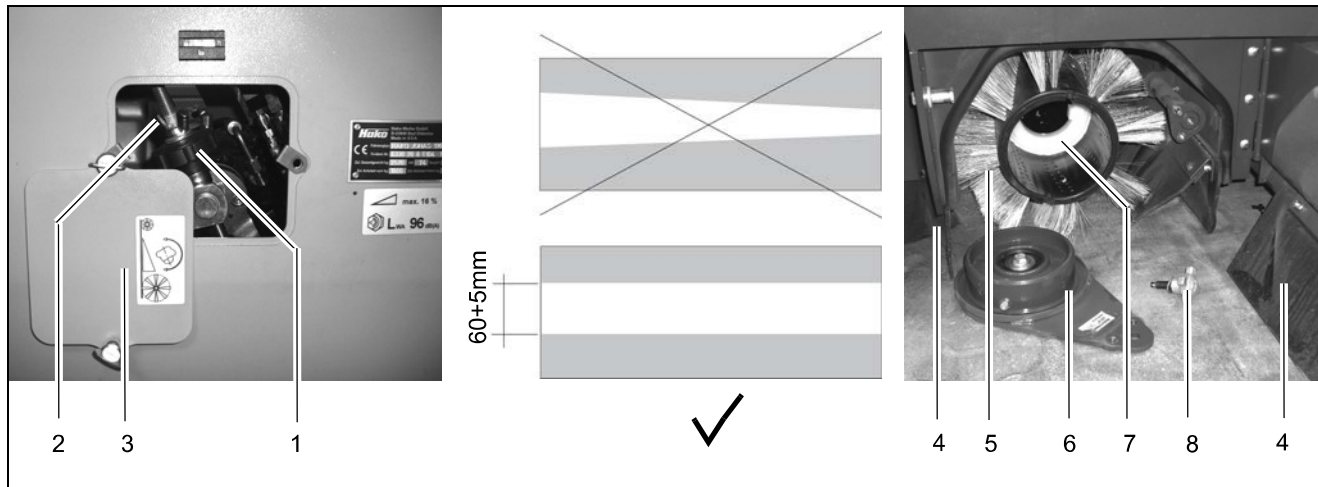

Fig.21
Check the cylindrical broom (Fig. 21/5) every week for signs of wear. In the event of wear or after the cylindrical broom has been changed, proceed as follows to complete the necessary adjustments:
4. Check the degree of wear. When setup correctly, the cylindrical broom must produce a parallel sweeping track, 60 mm wide, on the floor, refer to the diagram in Fig. 21.
5. Remove the cover plate (Fig. 21/3) and loosen the wing nut (Fig. 21/2). Adjust the sweeping pattern using the adjusting bolt (Fig. 21/1):
The cylindrical broom (Fig. 21/5) is set parallel at the factory. If the sweeping pattern is not parallel, the adjusting bolt must be used to correct it. The adjusting bolt is located underneath the engine behind the cylindrical broom.
In the case of wear resulting in a bristle length of at least 35 mm, the cylindrical broom (Fig. 21/5) must be changed.
5. Remove the star knob (Fig. 21/8) and pull out the cylindrical broom holder (Fig. 21/6).
6. Pull out the cylindrical broom (Fig. 21/5).
7. Install the new cylindrical broom in the reverse sequence. The catch (Fig. 21/7) on the cylindrical broom (on the inside) must latch on the drive.
The cylindrical broom aprons (Fig. 21/4) on the side doors and in space at the rear of the cylindrical broom must be checked weekly for signs of wear. Replace worn cylindrical broom aprons immediately.
In the case the cylindrical broom aprons (Fig. 21/4) become worn and their distance to the floor is greater than 3 mm at the rear and 2 mm at the sides, the cylindrical broom aprons must be adjusted as follows: